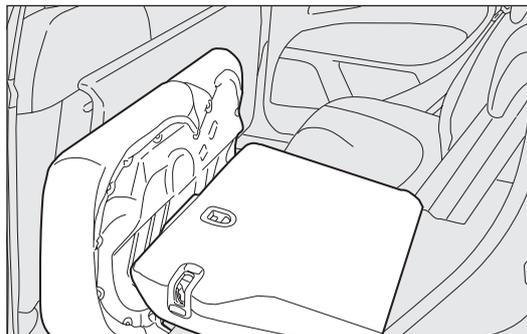

fig. 94
- tilt the cushions forward as shown by the arrow fig. 94;